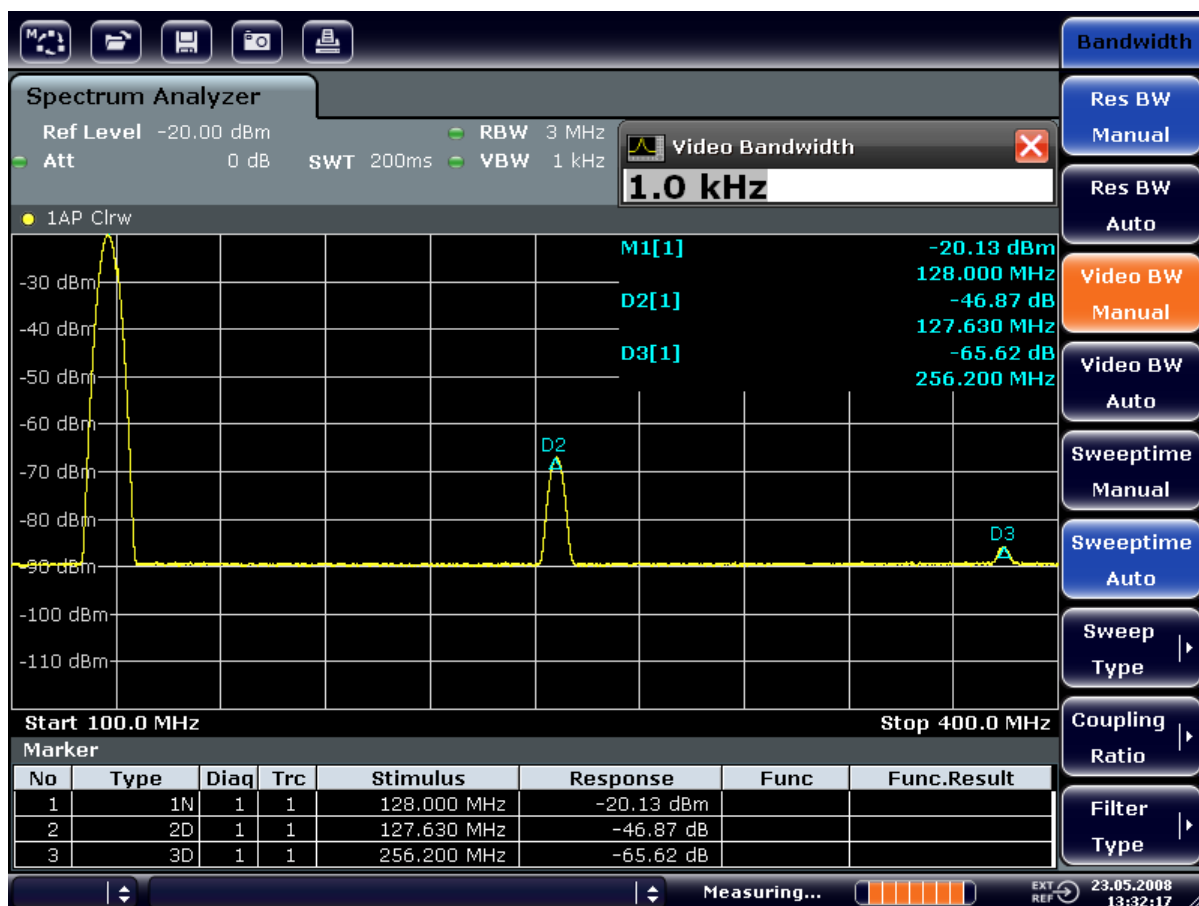

Fig. 6-3: Suppression of noise during harmonics measurement by reducing video bandwidth
3. Reduce the video bandwidth to 1 kHz (for example), by entering 1 kHz. This smooths the noise significantly, and the sweep time is increased to 200 ms. In other words, the measurement will take significantly more time. The video bandwidth that is displayed is marked with a bullet to indicate that it is no longer coupled to the resolution bandwidth (see figure 6-3).